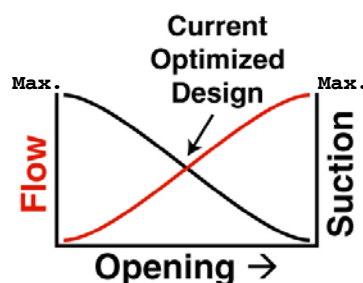

Figure 3. Trade-off performance design chart
- Strategy 1 would be to eliminate the problem cause, i.e. the vacuum cleaner's inherent (Without power brush) design contradiction. (See Figure 3, the 'optimized', vacuum motor fan assembly trade-off)
Step 2: Contradiction: How to provide both maximum suction and flow. (See Figure 3, the 'Optimized', trade-off performance design chart below)